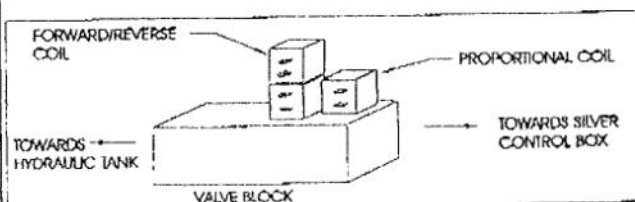

Figure 2
4. Remove the orange/black and orange/white wires from the forward/reverse valve coil (see figures 2 and 3).
5. Connect the new Harness (#101229-000) orange/black wire to the top terminal of the forward/reverse valve coil (see figures 2 and 3).
6. Connect the new Harness (#101229-000) orange/white wire to the third terminal down on the forward/reverse valve coil (see figures 2 and 3).
9. Remove the blue/black or gray wire from the proportional valve coil (see figures 2 and 3).
11. Connect the new wire harness (part # 101229-000) black/red wire to the top terminal of the proportional valve coil (see figures 2 and 3).